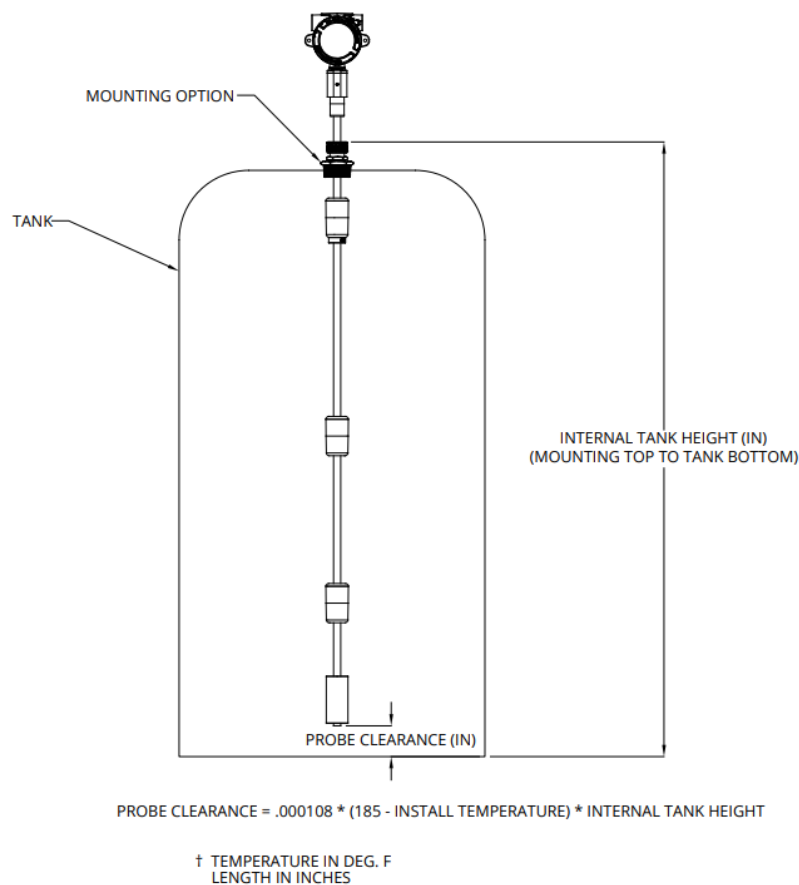

Figure 7.1
Prior to installing a PVDF-stem MPXI-F, the interior, mid-column temperature of the tank must be measured to determine the amount of clearance needed at the bottom of the probe for thermal expansion. See Figure 7.1.
3. Use a formula in Figure 7.1 to determine the necessary clearance from bottom of the probe to the interior tank bottom.